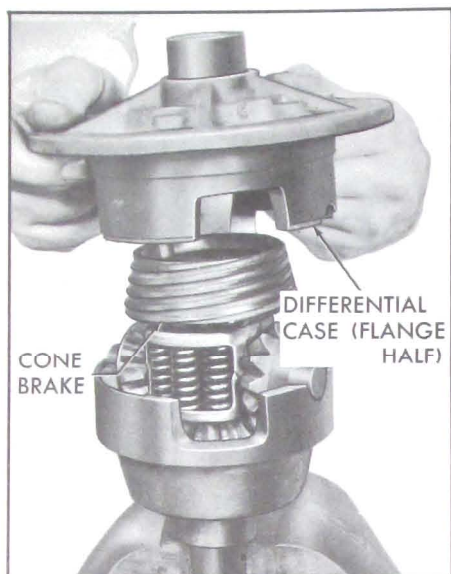

Fig. 6-42—Installing Flange Half of Differential Case
8. Install flange side of differential assembly over cone in proper position to match alignment marks; insert two bolts finger tight 180° apart. See Figure 6-42.